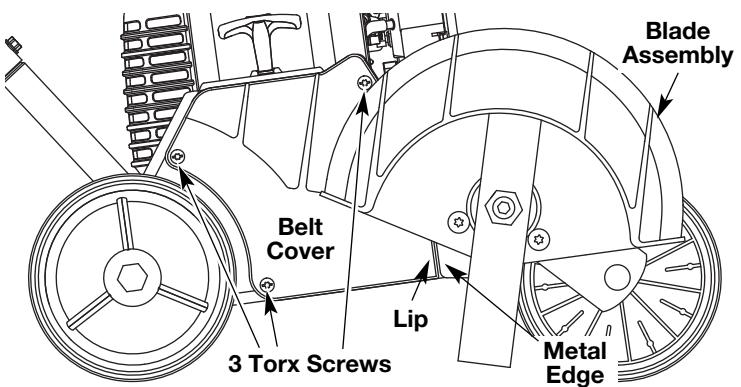

Fig. 37
3. Using a flat-head or T-20 Torx screwdriver, remove the 3 Torx screws holding the belt cover to the belt housing (Fig. 37).
21. Slide the belt cover behind the blade assembly so that the lip of the belt cover fits behind the metal edge of the blade assembly (Fig. 37).